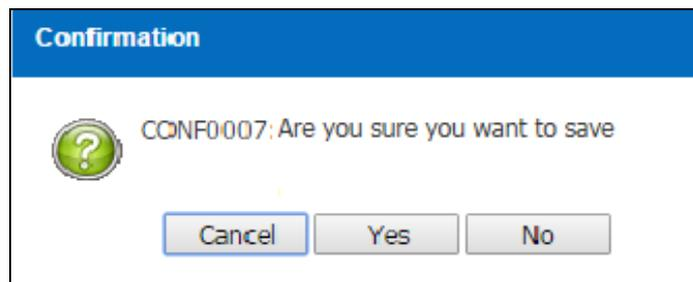

Figure 3.2.1-5 Confirmation Message
- System will display a Confirmation Message as Figure 3.2.1-5